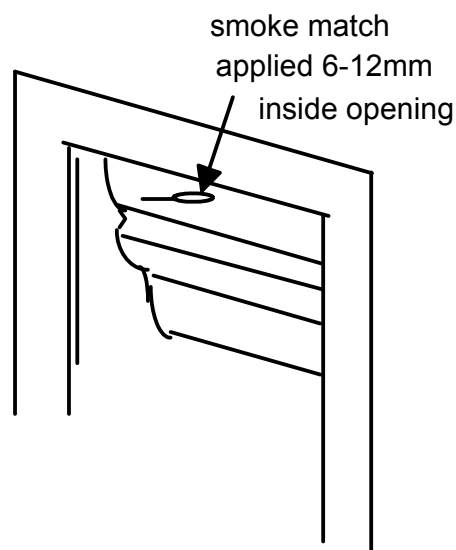

Figure 52
3. Test for spillage using a smoke match (in a 'Blume tube') at the top of the appliance opening along the centre, with the smoke match being approximately 25mm below and 6 - 12mm ($\frac{1}{4}$ - $\frac{1}{2}$ inches) inside the opening (see **Figure 52**).